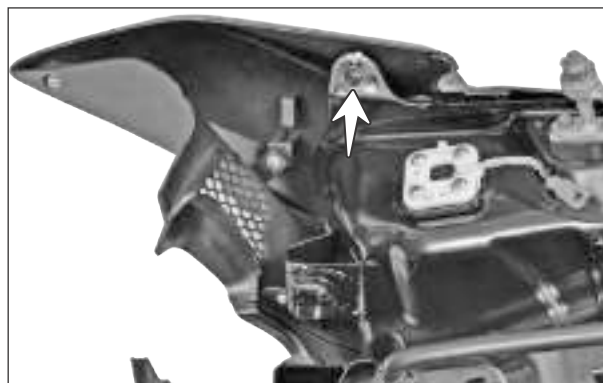

Fig. 2.10
- Remove the CRR pan head screw (M6x12 - 1 no.) from the mounting of cover fuel tank inner L with the fuel tank. (Fig. 2.10)